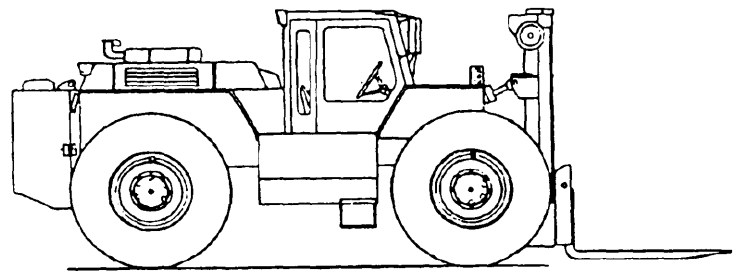

Figure 8-8.—Lift-king forklift.
6. The NCF has two types of lift-king forklifts (fig. 8-8) rated at 12K and 16K. These two models provide a lifting capacity of 12,000 to 16,000 pounds at a 48-inch load center to a height of \_\_\_\_ inches.
The NCF has two types of lift-king forklifts (fig. 8-8) rated at 12K and 16K. These two models provide a lifting capacity of 12,000 to 16,000 pounds at a 48-inch load center to a height of 120 inches. The lift-king forklift is equipped with forklift oscillation, load side shift, lift interrupt, fork positioning, four-wheel and two-wheel-crab steering selection, and counterweight lowering.